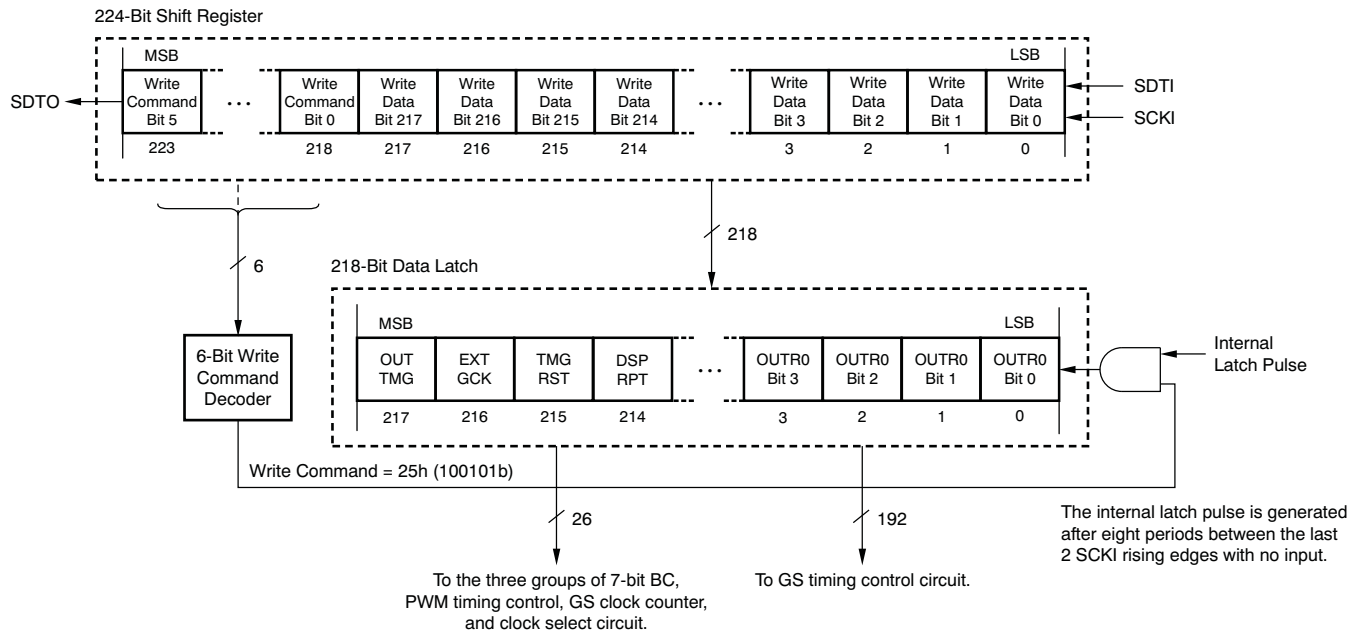

Figure 24. Common Shift Register and Control Data Latch Configuration
The TLC5971 has a 224-bit shift register and a 218-bit data latch that set grayscale (GS) data, global brightness control (BC), and function control (FC) data into the device. When the internal latch pulse is generated and the data of the six MSBs in the shift register are 25h, the 218 following data bits in the shift register are copied into the 218-bit data latch. If the data of the six MSBs is not 25h, the 218 data bits are not copied into the 218-bit data latch. The data in the data latch are used for GS, BC, and FC functions. Figure 24 shows the shift register and the data latch configuration.